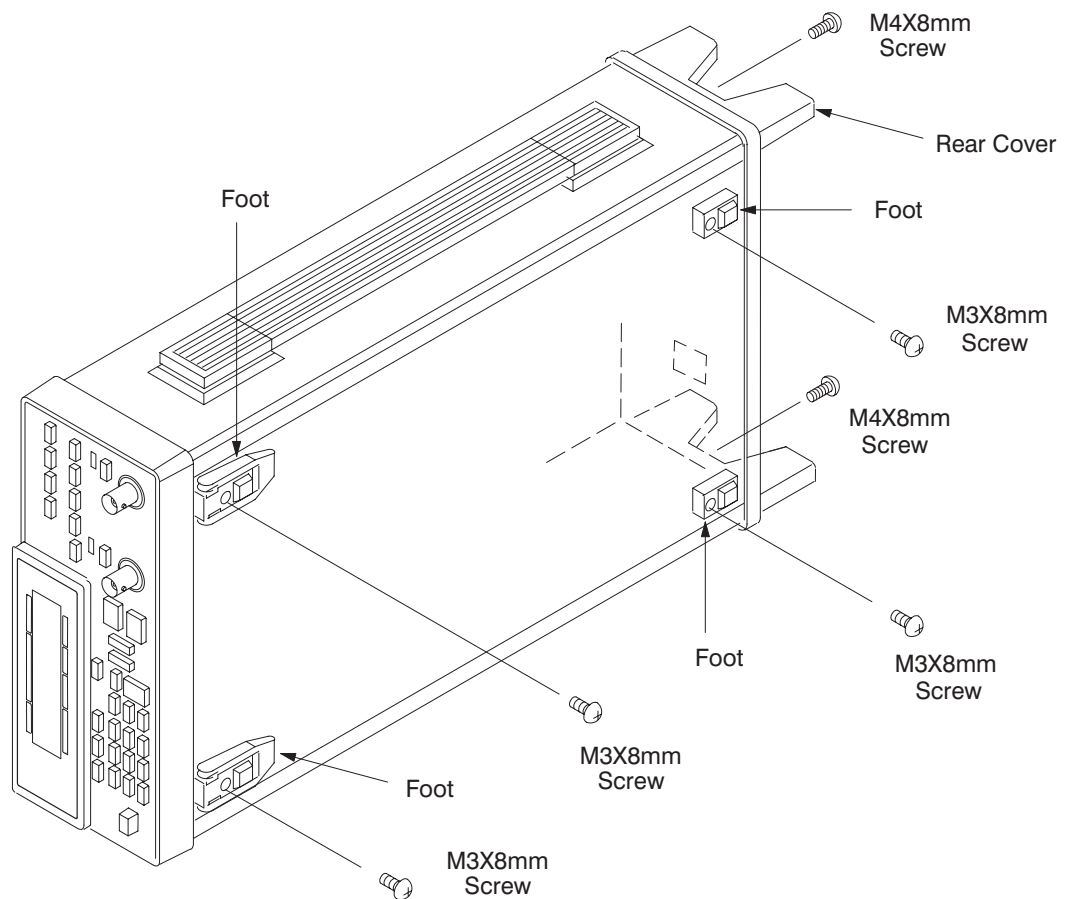

Figure 4: Feet and rear cover removal
1. Using a #2 phillips tip screwdriver, remove the four screws (M3 × 8 mm) securing the four feet to the cabinet. Lift off the four feet. See Figure 4.
1. Using a #2 phillips tip screwdriver, remove the two screws (M4 × 8 mm) securing the rear cover to the instrument. See Figure 4.